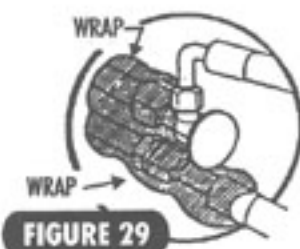

FIGURE 29
- WRAP THE METAL FITTINGS OF THE SUCTION LINE AT THE EVAPORATOR AND THE EXPANSION VALVE WITH PRESS TAPE AS SHOWN IN FIGURE 29.